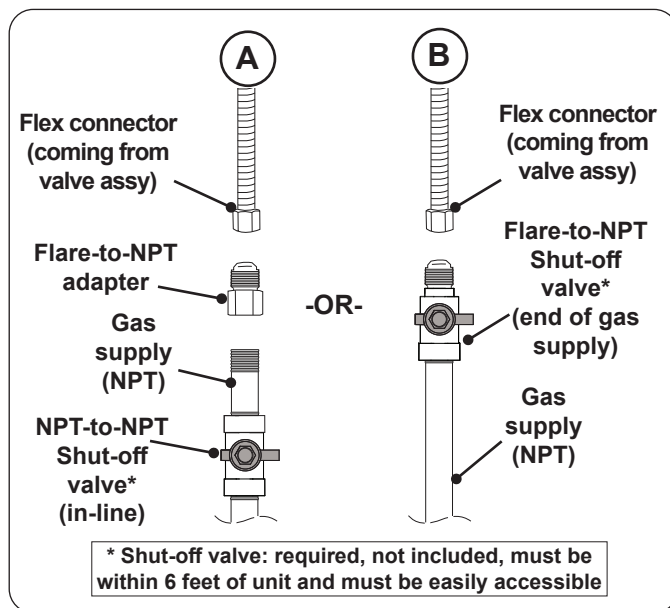

Fig. 31-1 Connecting to a gas line
- Install the supplied flare-to-NPT adapter to the gas supply (NPT) using a pipe joint compound resistant to all gasses (see Fig. 31-1, A). Tighten securely.
- Connect the flex connector to the adapter (see Fig. 31-1, A). Tighten securely.
- Connect the flex connector to the shut-off valve (flare)(see Fig. 31-1, B). Tighten securely.